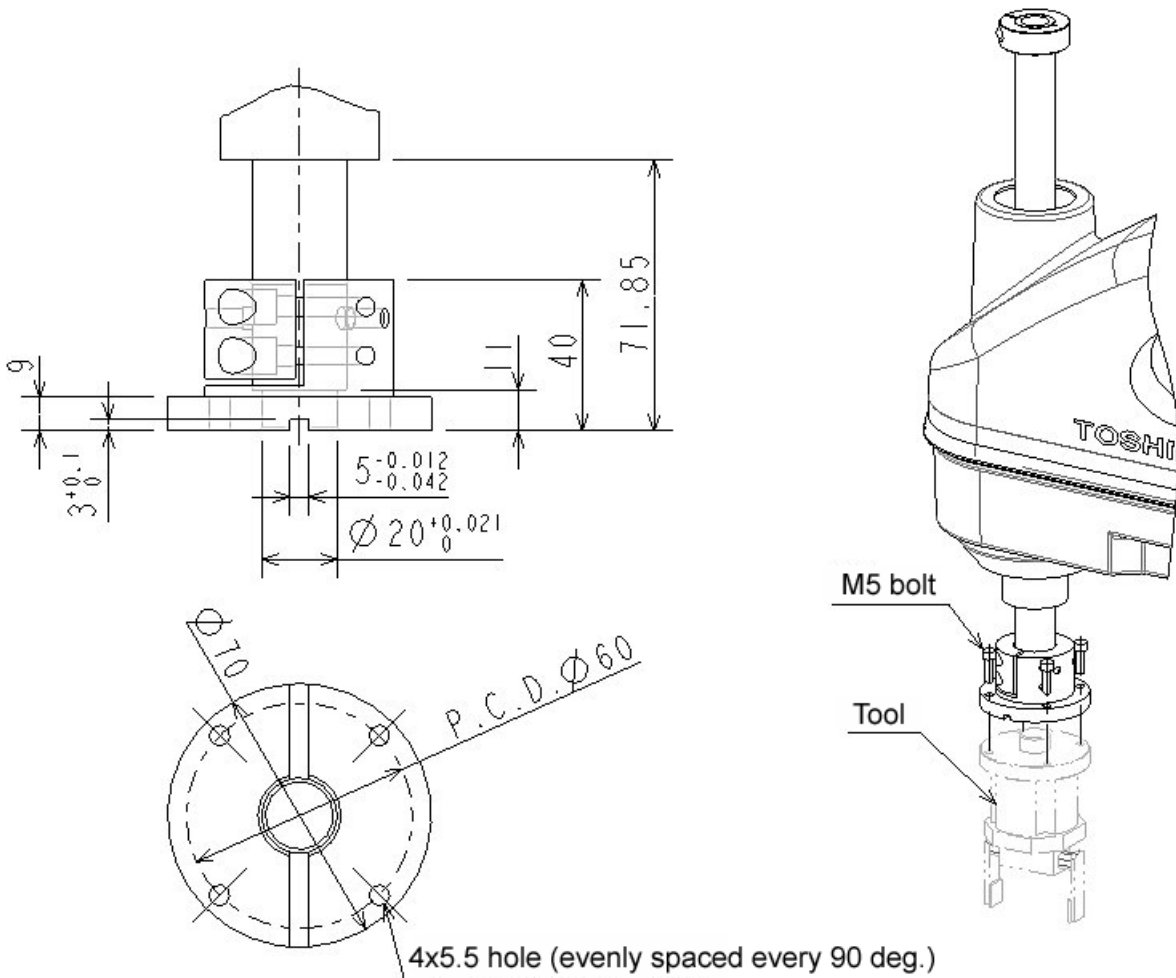

Fig. 5.1 Tool mounting dimensions
The tool is mounted on the end of the tool shaft. Dimensions of the tool shaft section are shown in Fig. 5.1.
As shown in Fig. 5.1, the tool is centered with the $\varnothing 20H7$ mating section. The tool direction is adjusted by means of the 5×5 keys and secured with four (4) M5 bolts.